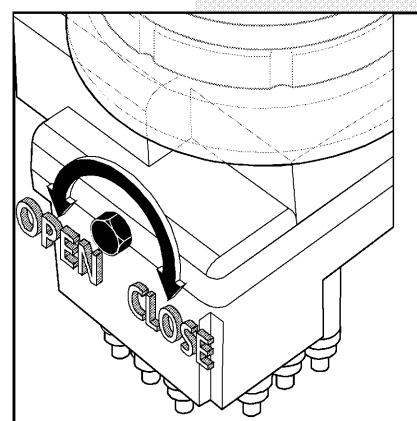

Fig. D9
2. Open the venting screw (fig. D9) one turn of the winding.
4. Close the vent screw (fig. D9).